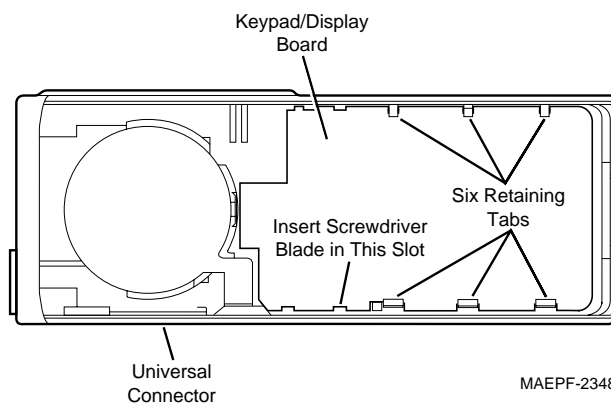

Figure 40-12.
- 6. On front display model radios only, notice that the keypad/display board is secured to the front cover housing using six tabs, three small tabs on one side and three larger tabs on the universal connector side. Remove the keypad/display board by inserting a small flat-blade screwdriver in the circuit board slot provided (slot nearest the top retaining tab on the universal connector side of the radio, see Figure 40-12). A slight prying action will release the keypad/display board. If applicable, remove the rubber keypad.